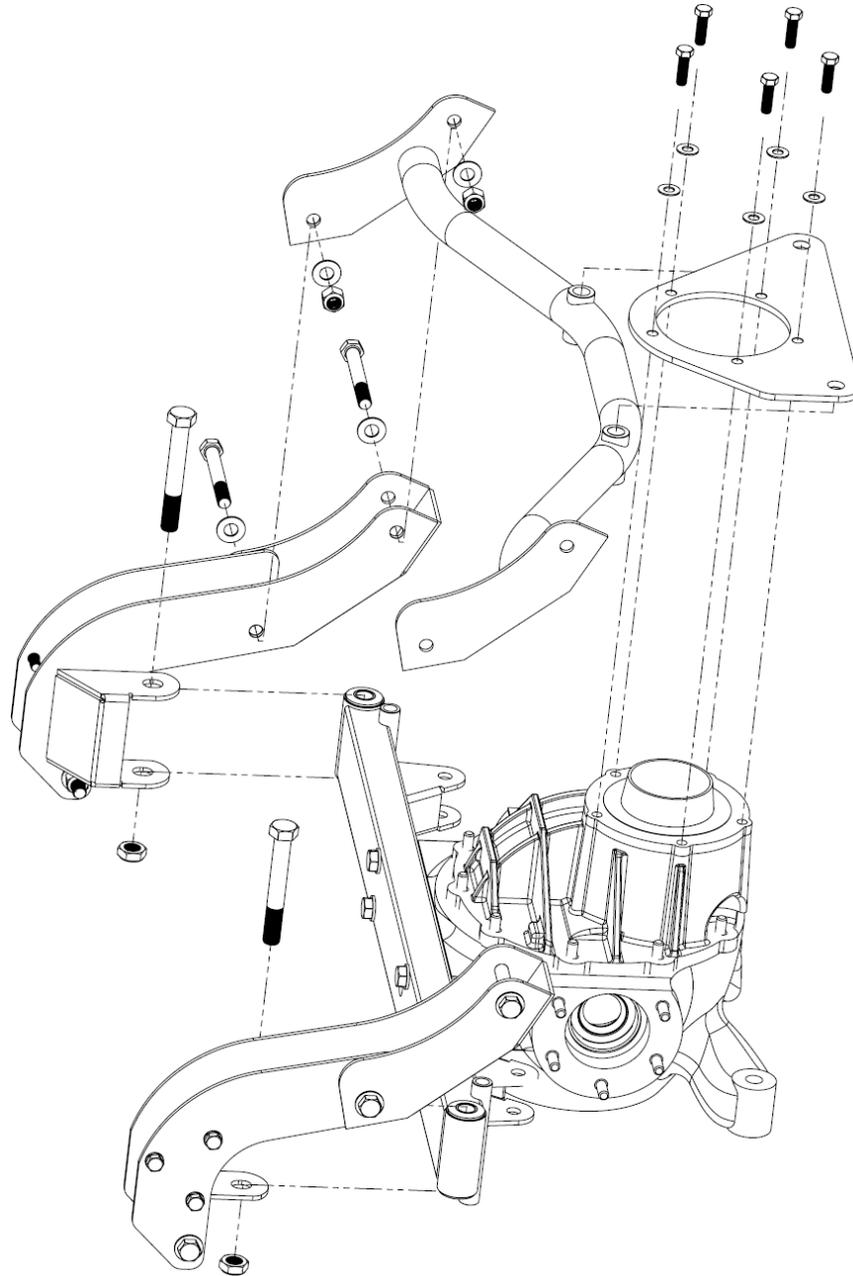

Figure 8. Exploded view of the saddles, center section with third member, and pinion support cross member & plate
- 13) Now, install the pinion support plate, and pinion support crossmember utilizing the forward saddle bolts as shown in Figure 8.